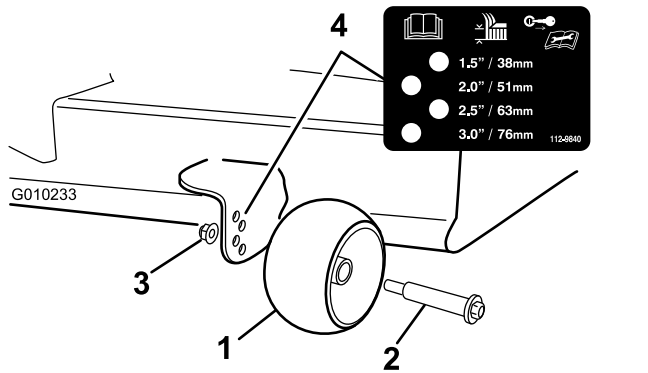

Figure 22
3. Adjust the anti-scalp rollers (Figure 22) to match the closest height-of-cut position.